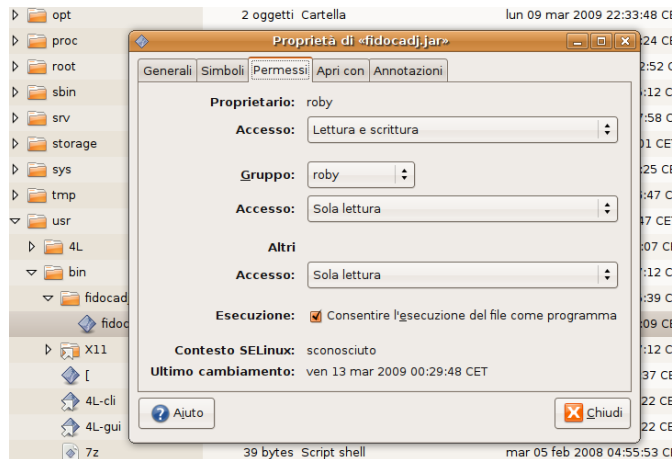

Figure 23: The setting of file rights, on Ubuntu 8.04.
- Let's do right click on the file, from the window we select the tab "rights", we add the check mark in front of the "Allow the execution of the file as a program", as shown in the figure 23